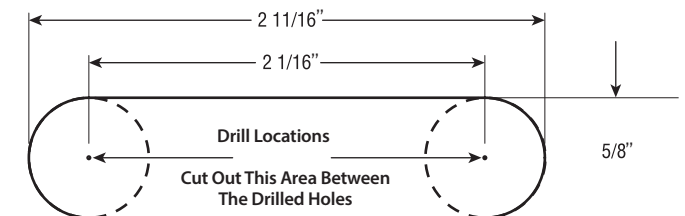

Fig. 2
Step 2: Measure the drilling template in Fig. 2 to make sure it matches the dimensions listed on the template. Cut out the drilling template.